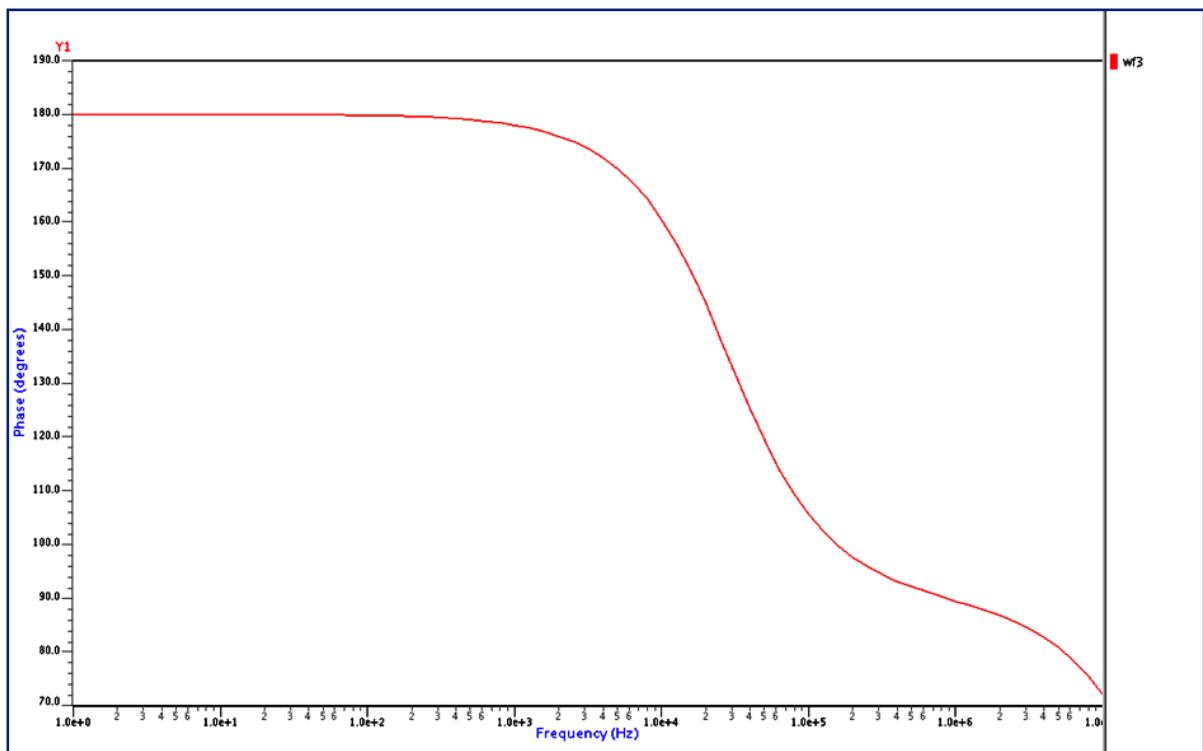

Figure 11: Phase waveform
27. Repeat *Step 15 until Step 25* to get the phase waveform. Use the same method also, minus it with VP(VO) and VP(VN) by using **Waveform Calculator**.
28. The waveform simulation for phase is shown in Fig 11 below and the phase we get is 180^0 .